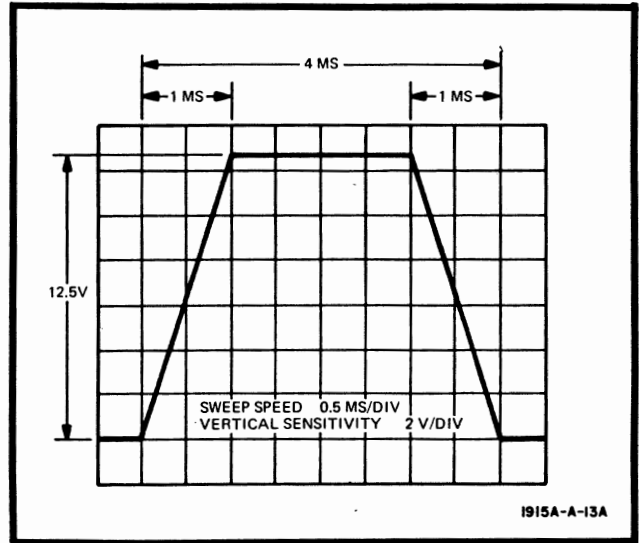

Figure 5-18. Positive Overload Setup Pulse
- e. Set Model 1915A WIDTH vernier, LEADING EDGE and TRAILING EDGE controls to obtain the display shown in Figure 5-18.